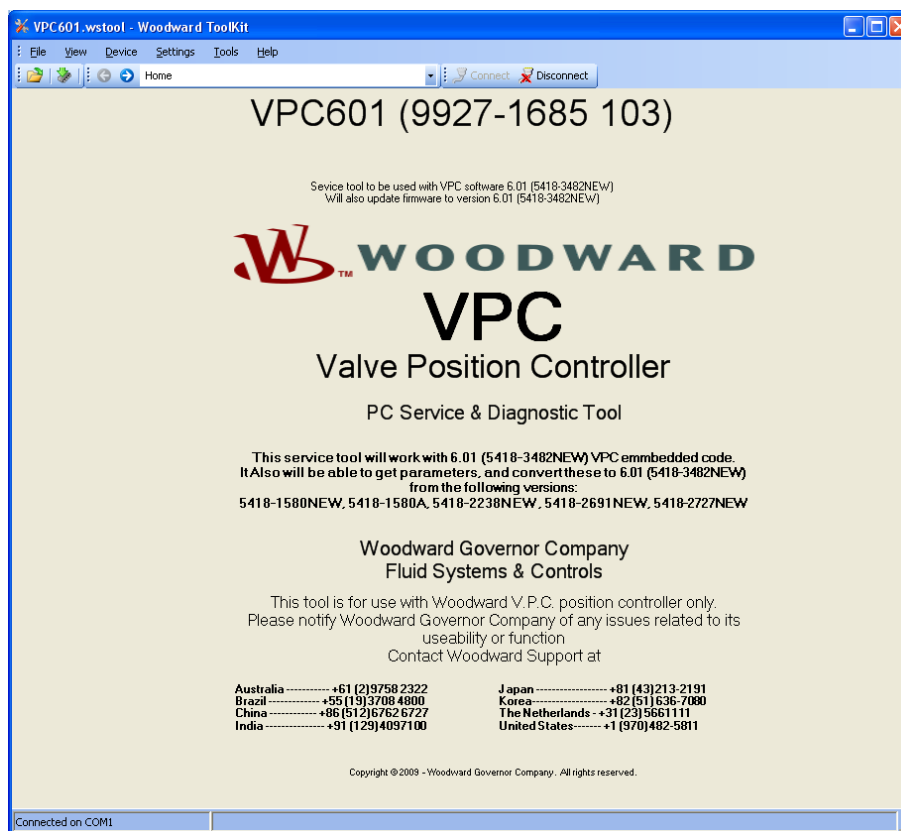

Figure 4-1 VPC Title Page
The VPC title page is displayed as the tool is launched from a PC. The title page of the VPC Service Tool contains important information about the version of the Service Tool and the Firmware suitable to be controlled and monitored using the Service Tool. It also provides information to contact Woodward Technical Support for assistance (Figure 4-1).
**Home**—Displays the service tool and its supported software (Figure 4-1).